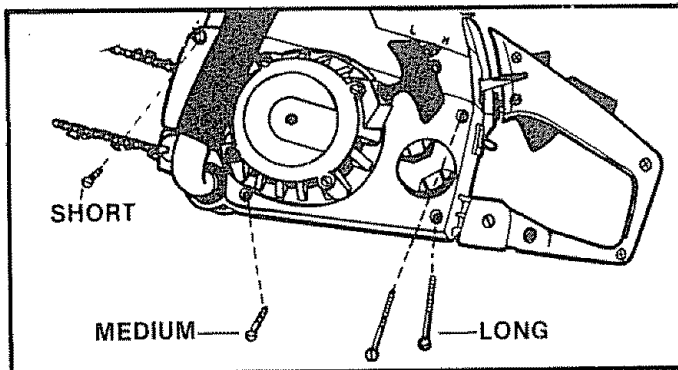

Figure 46
1. Remove the four screws on the side of the fan housing. Figure 46.